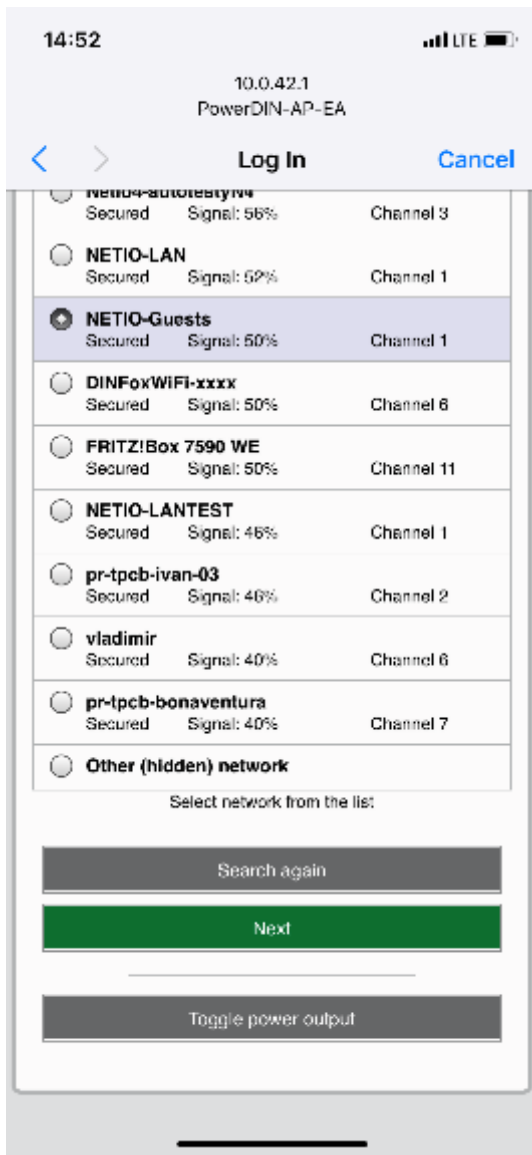

Figure 8 - Network selection in AP mode
- Select your network in the list of detected networks and click “Next” (Figure 8).